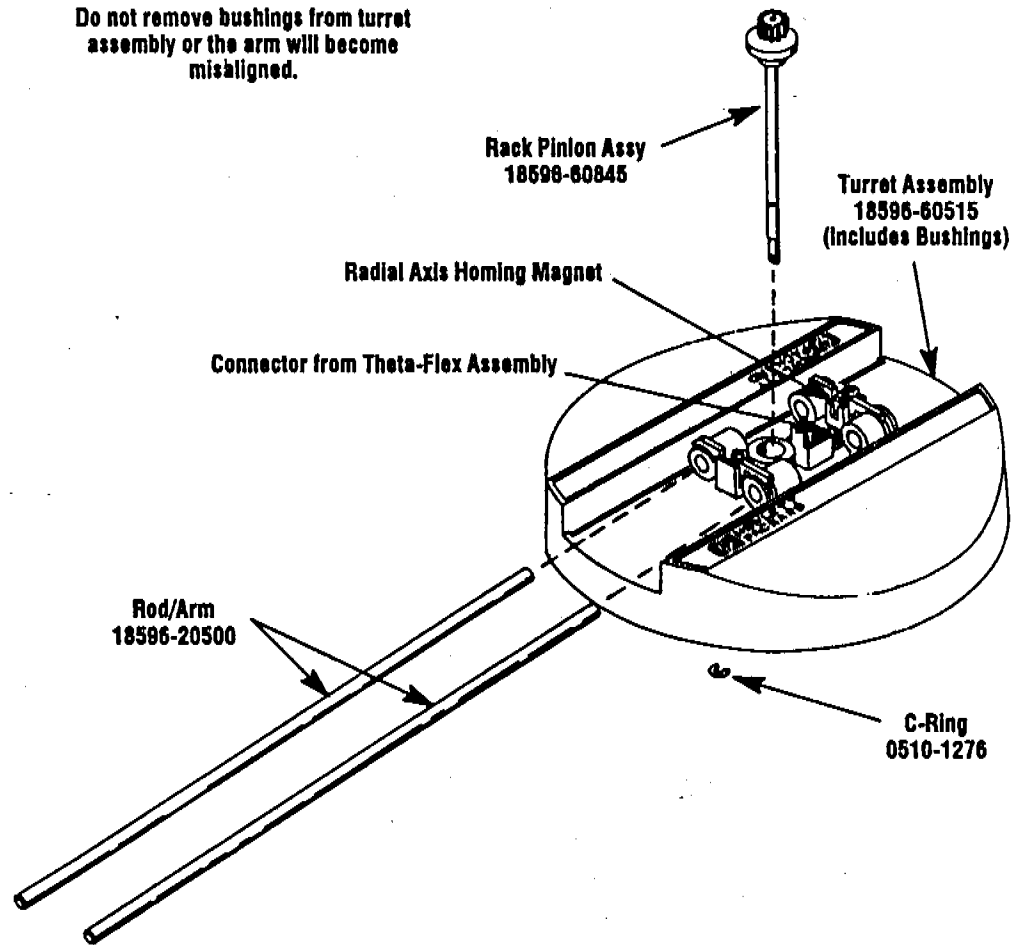

Figure E-5. Tray turret.
The radial (R) home position is sensed when the arm is fully back. To find home, the arm moves to the full back position until the R-magnet in the turret assembly (figure E-5) is sensed by the R-sensor mounted at the bottom of the arm sensor board. It continues moving back in small steps to ensure it hits the fixed stop. It then moves small steps forward and backward to find the edge of the sensor. This position becomes the R-home position.